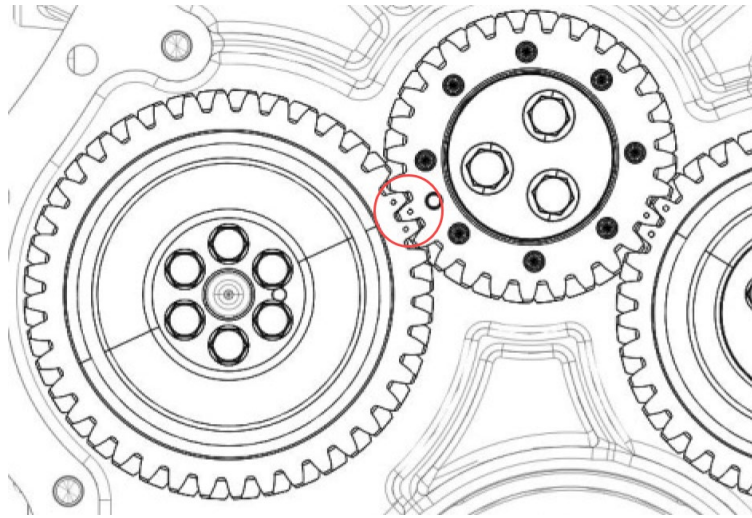

Figure 120.
- The “N” mark on the camshaft gear must be facing the marking on the crankshaft timing gear (Figure 120).
6. Install the camshaft using the dowel pin and ensure the two-timing marks on the camshaft gear lie in the middle of the idler gear timing mark (Figure 120).